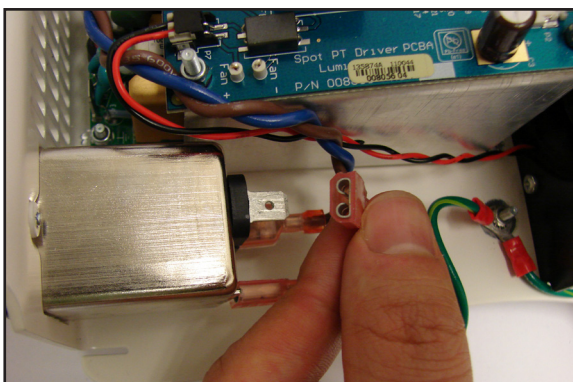

Figure 11-9
5. Unplug the AC harness wires from the power module (Refer to Figure 11-9). Note how AC wires are connected to power module terminals before unplugging them to avoid wrong connections during re-installment.